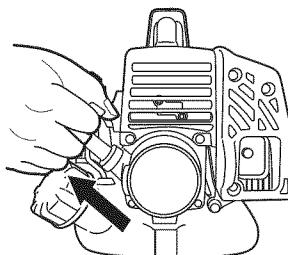

Fig. 18
- (4) Pull recoil starter briskly, taking care to keep the handle in your grasp and not allowing it to snap back. (Fig. 18)
- (6) Pull recoil starter briskly again. (Fig. 18)